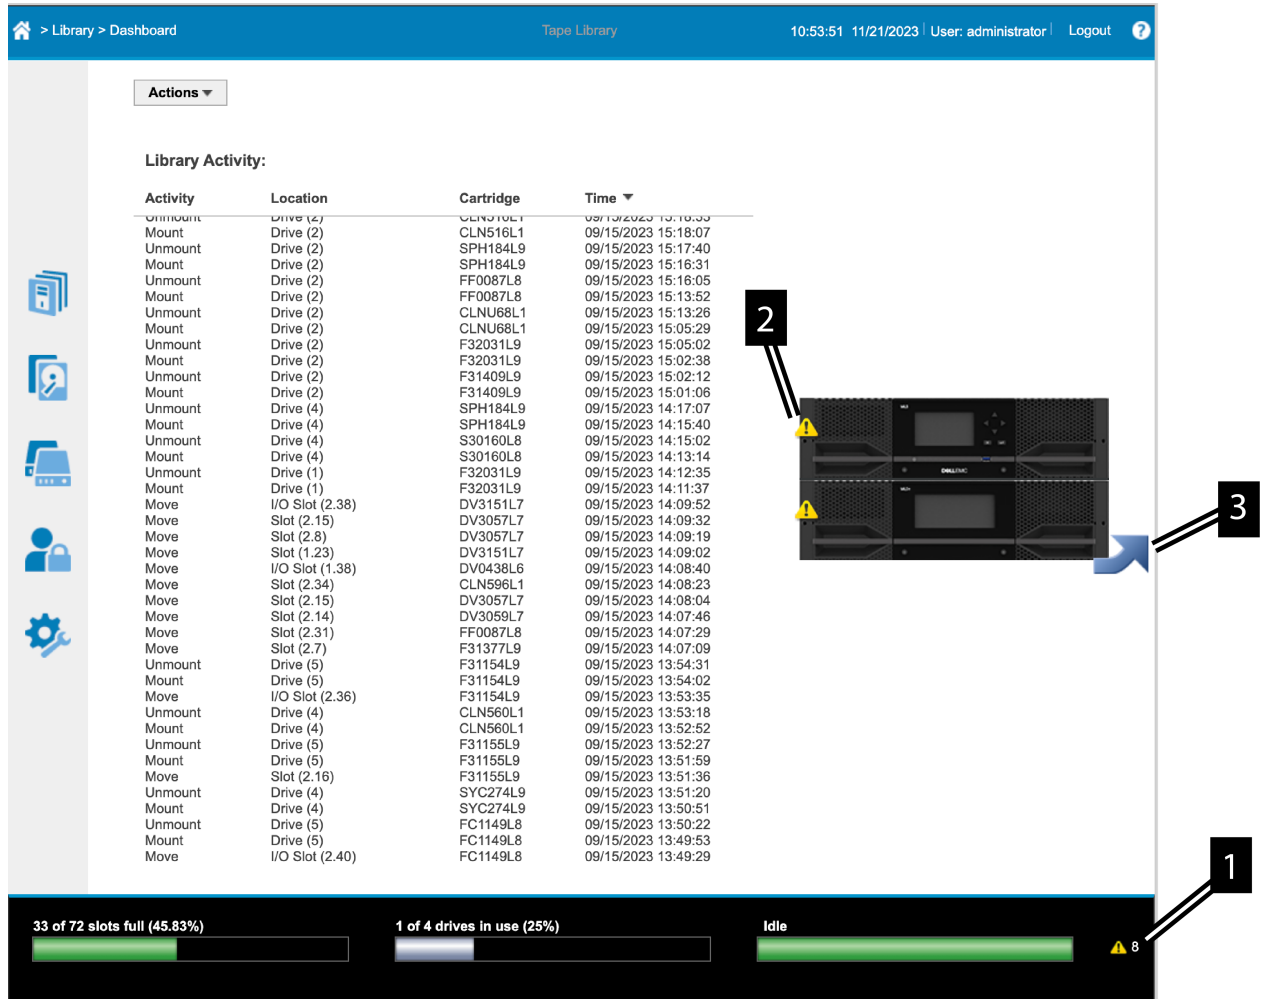

Figure 52. GUI screen
1. The lower-right status pod on the library GUI shows the library fault status. See **1** in Figure 52 on page 81
2. The graphic display of the library on the right half of the GUI library dashboard displays a warning or error icon on a component that has an issue. **2** in Figure 52 on page 81
If a module shows a fault on the front, click the arrow on the library graphic. See **3** in Figure 52 on page 81. The library graphic will rotate and show the rear panels, so that you can determine which component has the fault.